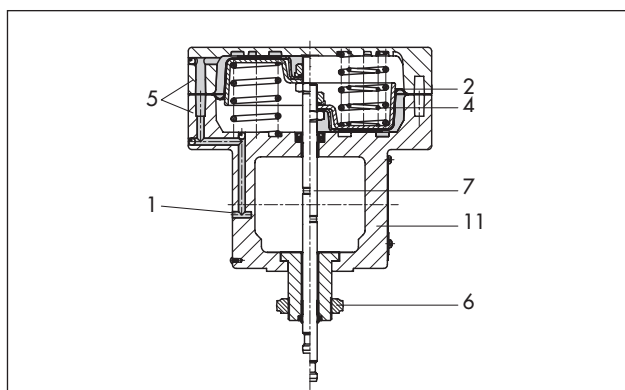

Fig. 10 · Type 3277-5 for direct attachment of accessories
- **Type 3277-5** · Diaphragm area 120 cm², die-cast aluminum housing for direct attachment of accessories (Fig. 10), optionally with additional handwheel (Figs. 6 and 13b)